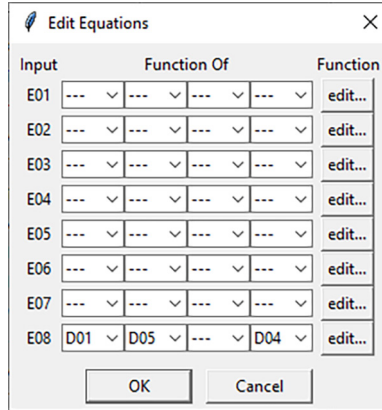

Figure 33: Edit > Edit Equations Command - E08 Variables Assigned
8. Click the **OK** button to complete the function definition. The user will be returned to the dialog box depicted in Figure 33 on page 41.